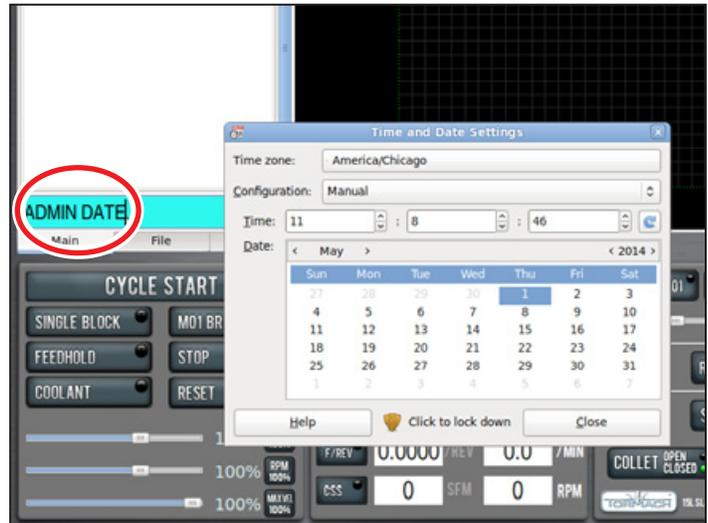

Figure 2.28
- d. Toward the manual oiler installed on the stand along the back of the lathe (see **Figure 2.28**)
To set or edit controller's date and time, type *ADMIN DATE* in the *MDI* line and click *Enter* on keyboard (see **Figure 2.28**). This opens a dialog box to enter or edit date, time, and time zone. Click *Close* when finished.